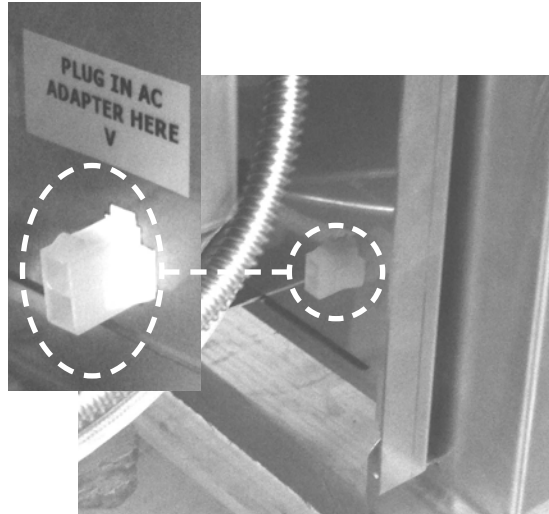

Fig. 2
- c. Make the transformer connections to the wire harness plug, located at the left rear of the front panel, to the harness of the transformer box. (Fig. 2)